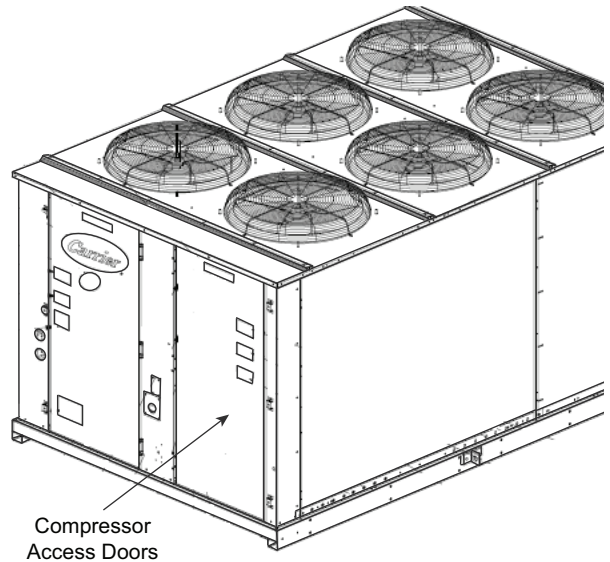

Fig. 3 — Compressor Access Doors 48/50K 60 Size
- c. For 48/50K 60 unit size, access from end of unit (see Fig. 3).